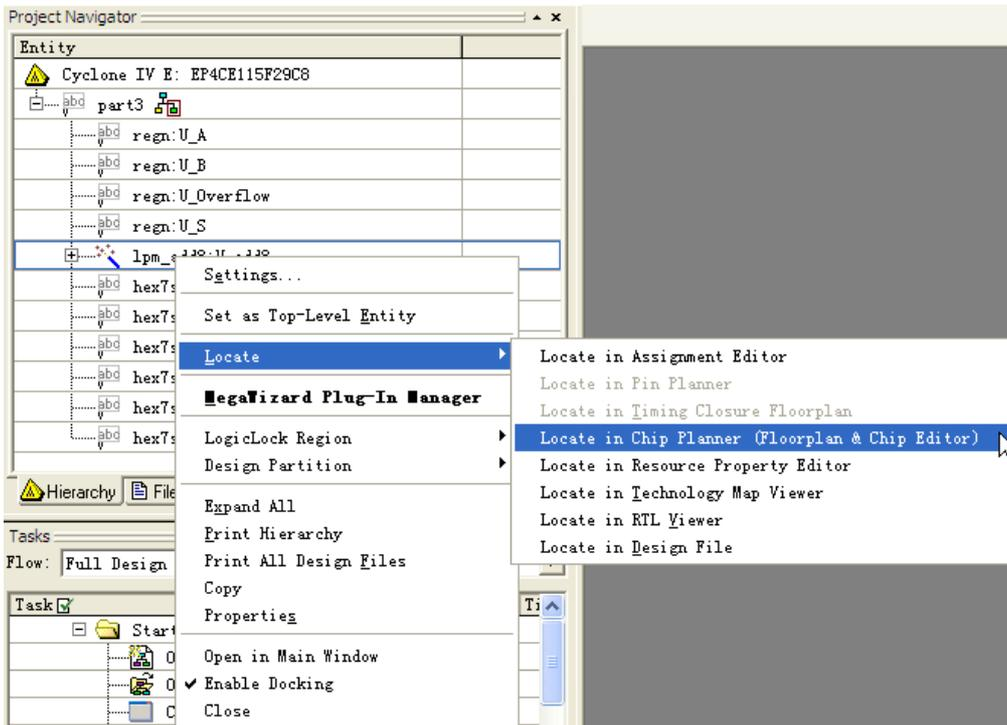
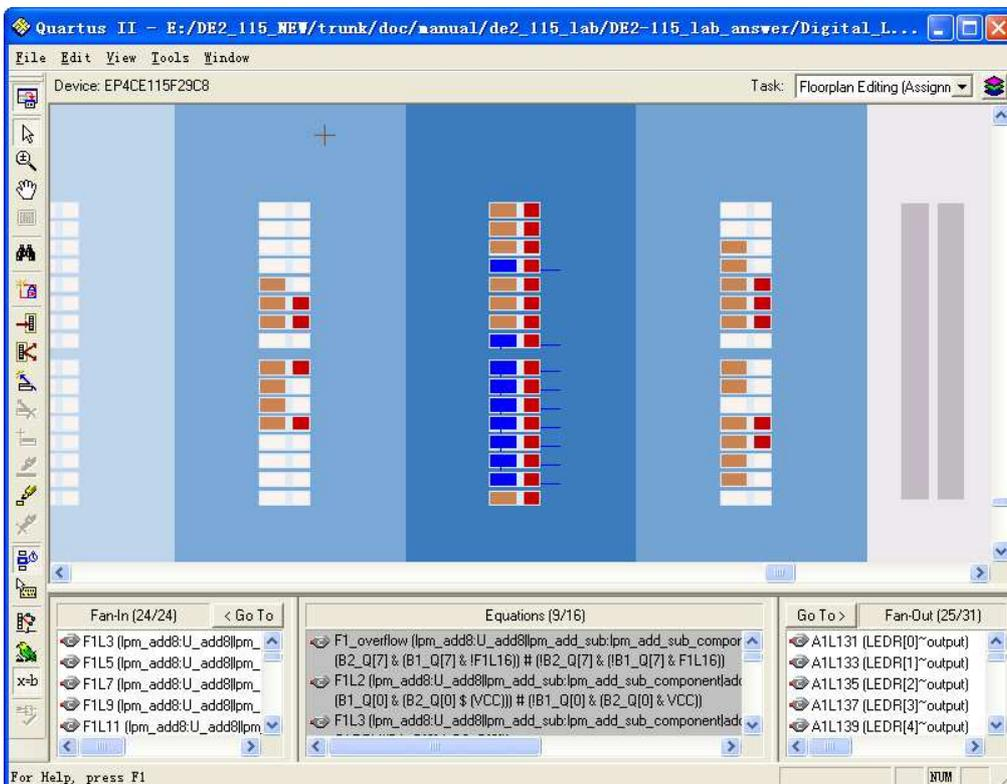
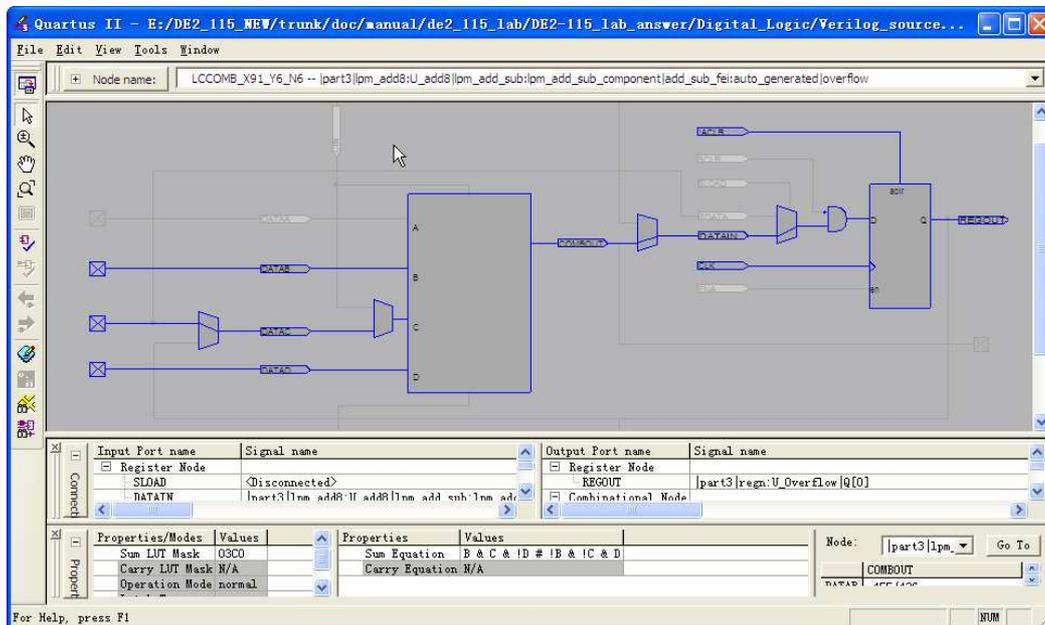

Figure 2. Locating the eight-bit adder in the Chip Editor tool.
Figure 3. The highlighted logic elements for the eight-bit adder.
Figure 4. Examining details in a logic element using the Resource Property Editor.
1. Configure the lpm add sub module so that it performs only addition, to make the functionality comparable to Part I. Store your configuration of the lpm add sub module in the file lpm add8.v. After instantiating this module in your Verilog code, compile the project and use the Quartus II Chip Editor tool to examine some of the details of the implemented circuit. One way to examine the adder subcircuit using the Chip Editor tool is illustrated in Figure 2. In the Quartus II Project Navigator window right-click on the part of your circuit hierarchy that represents the lpm add8 subcircuit, and select the command Locate > Locate in Chip Editor. This opens the Chip Editor window shown in Figure 3. The logic elements in the Cyclone IV FPGA that are used to implement the adder are highlighted in blue in the Chip Editor tool. Position your mouse pointer over any of these logic elements and double-click to open the Resource Property Editor window displayed in Figure 4. In the box labeled Node name you can select any of the nine logic elements that implement the adder module. The Resource Property Editor allows you to examine the contents of a logic element and to see how one logic element is connected others.